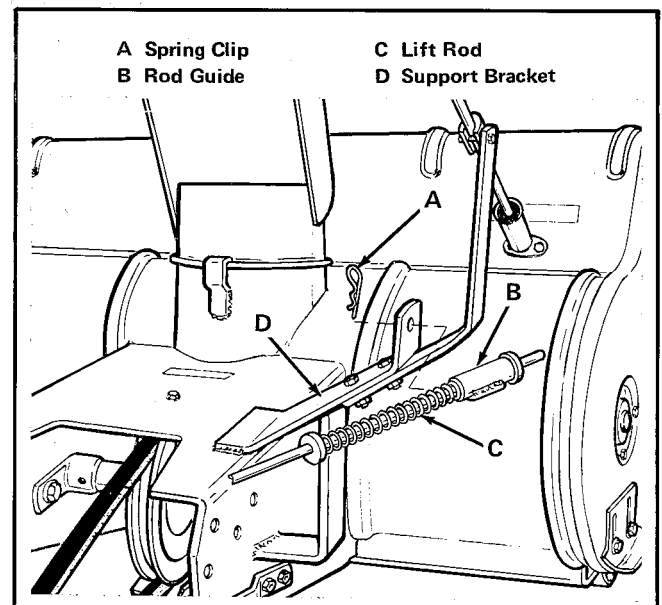

Figure 19. Installing Lift Rod
- Attach the front of the snow thrower lift rod (item C, figure 19) to the support bracket (item D) as shown. Insert the mounting tip at the side of the rod guide (item B) in the support bracket hole, and secure the rod with a spring clip (item A).